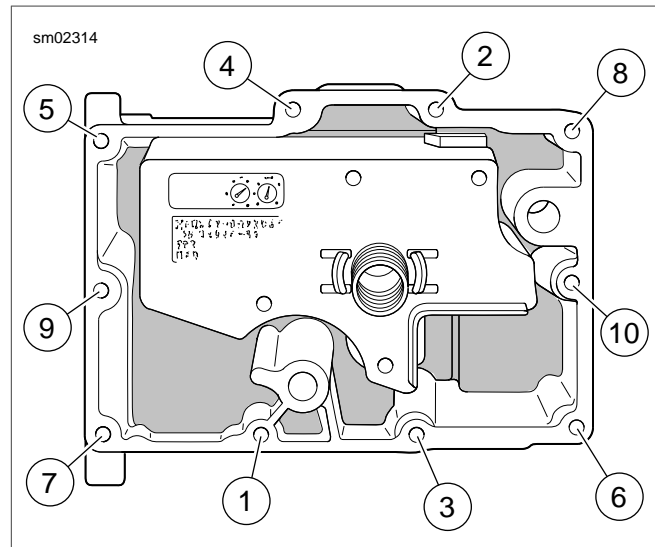

Figure 3-142. Oil Pan Torque Sequence
4. Position gasket and oil pan on transmission housing and install with ten screws (8). Tighten to 84-108 **in-lbs** (9.5-12.2 Nm) following sequence shown in Figure 3-142.